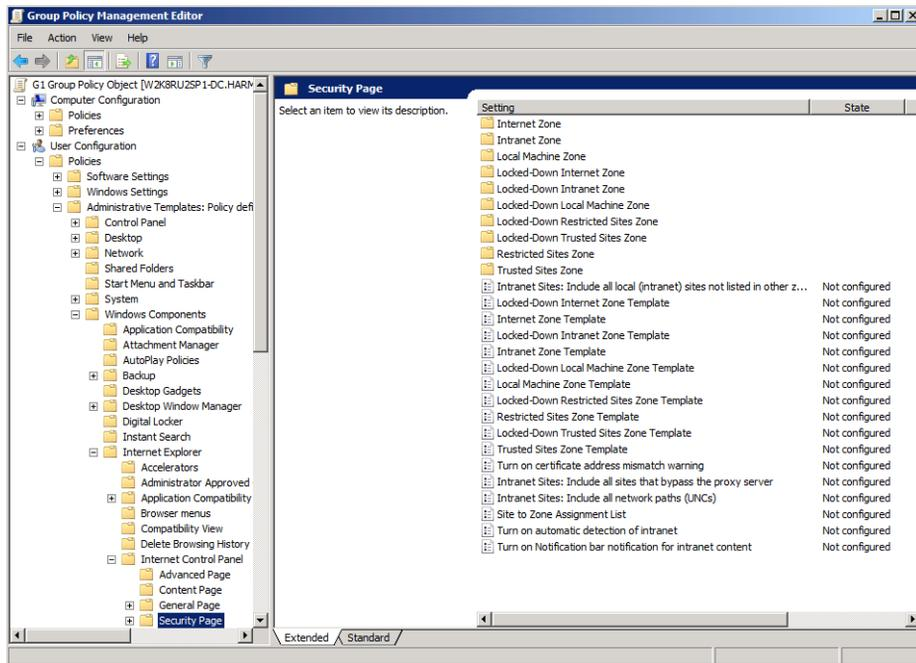

Figure 4. Path to Navigate in GPO Editor
**User Configuration > Policies > Administrative Templates > Windows Components > Internet Explorer > Internet Control Panel > Security Page** (see Figure 4)
**User Configuration > Administrative Templates > Windows Components > Internet Explorer > Internet Control Panel > Security Page** (see Figure 4)